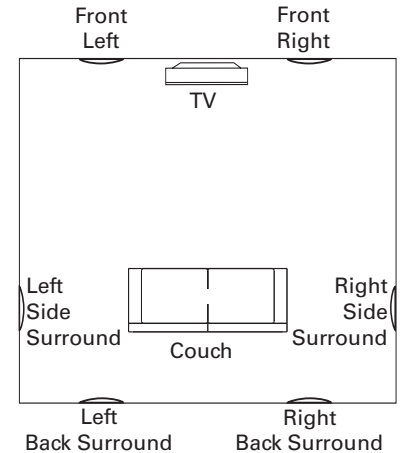

Figure 8: Surround Channels 6.1/7.1-Channel System
- The back surround speakers should be placed along the rear wall facing the front of the room. Each side surround speaker should be about one-third of the way forward of the rear wall, as shown in Figure 8.